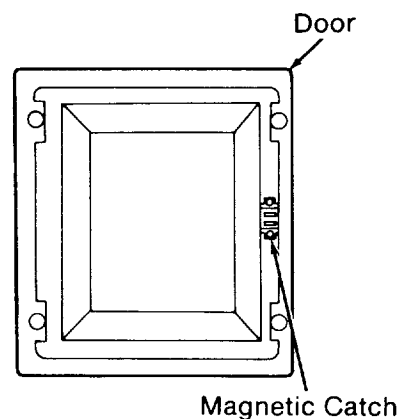

Fig. 26
1. Put a *magnetic catch* on the inside edge of the *door*. (Figure 26)
2. Fasten using two pan head screws. Tighten with a Phillips screwdriver. (Figure 26 & 27)